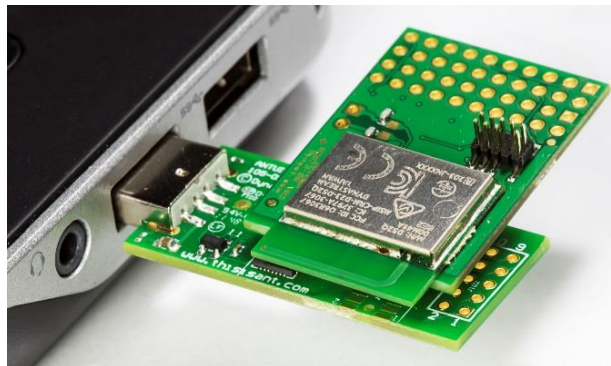

Figure 4. ANT BLAZE Gateway Board Setup
6. Mount the module onto an ANT USB Interface board and connect it to a USB port of a PC, as shown in Figure 4.